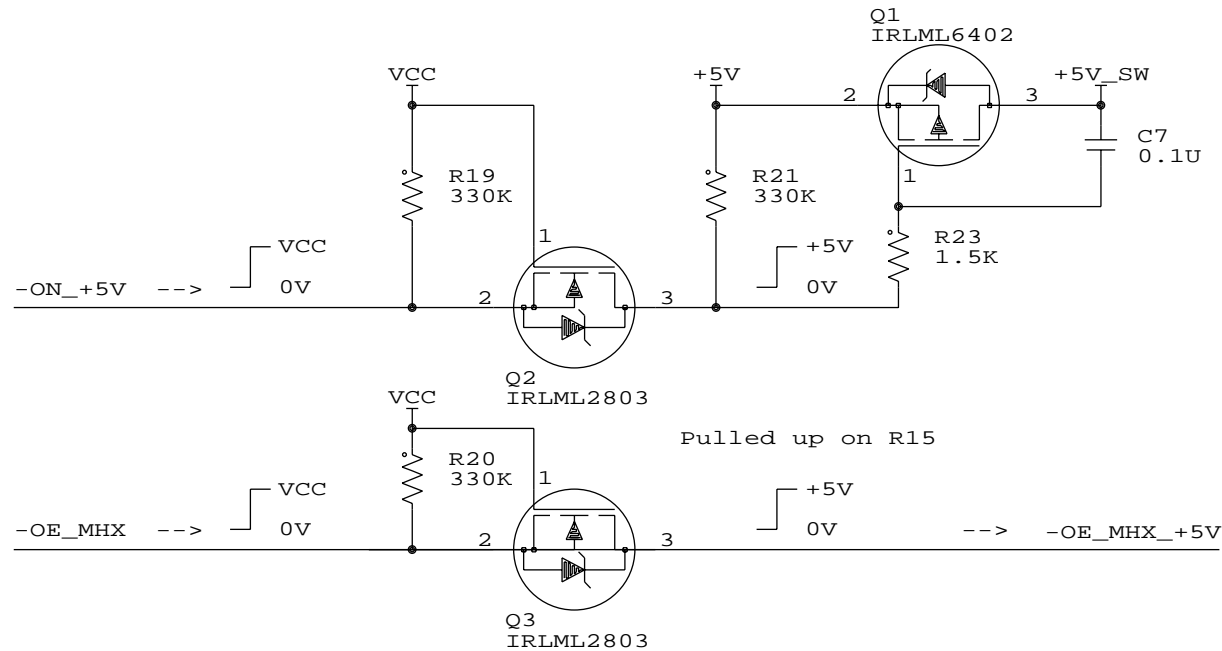

Figure 4: Level Shifting for Individual Unidirectional Control Signals
- * Assuming that individual control outputs idle high, they can be level-shifted using discrete MOSFETs and resistors at zero power (Figure 4).